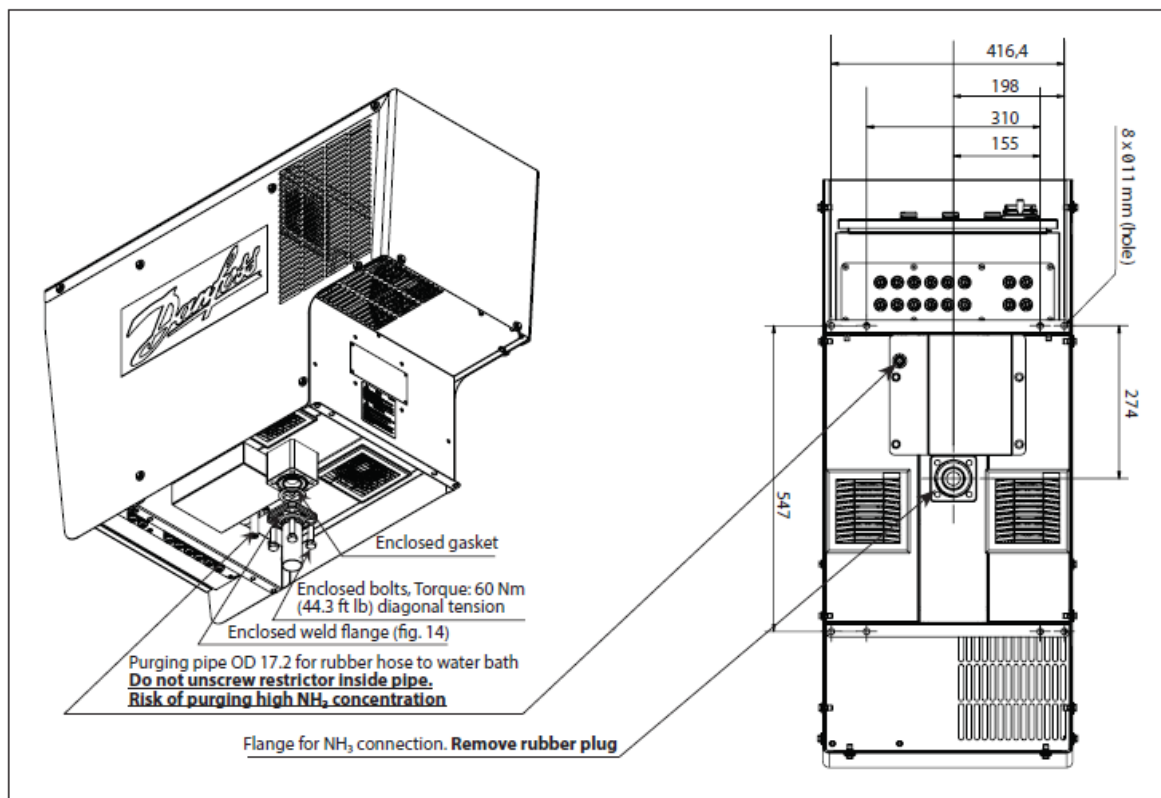
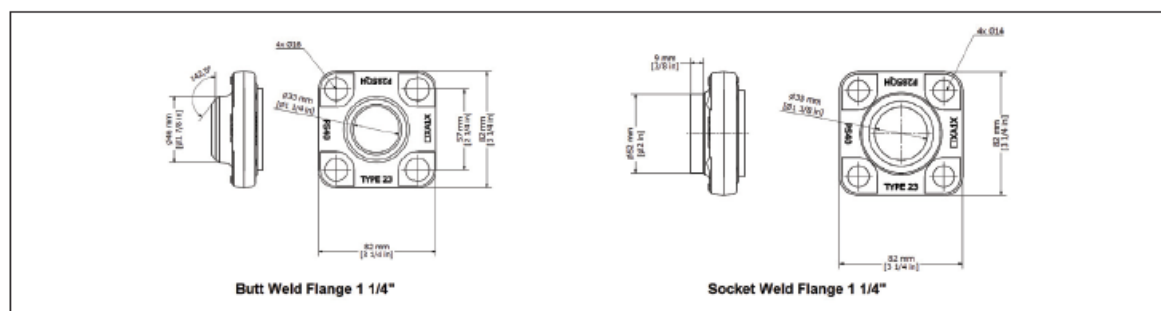

Fig. 13 Ammonia connection
Fig. 14 Enclosed weld flange
1. Prepare the ammonia pipework with the weld flange according to Fig. 13 and Fig. 14. The main/drain piping should never be smaller than the inner diameter Ø37 mm (1.5 in).
3. Lift the purger into position using the lifting eyes on each side of the purger's cabinet. Remove the rubber plug from the flange opening. See Fig. 13.